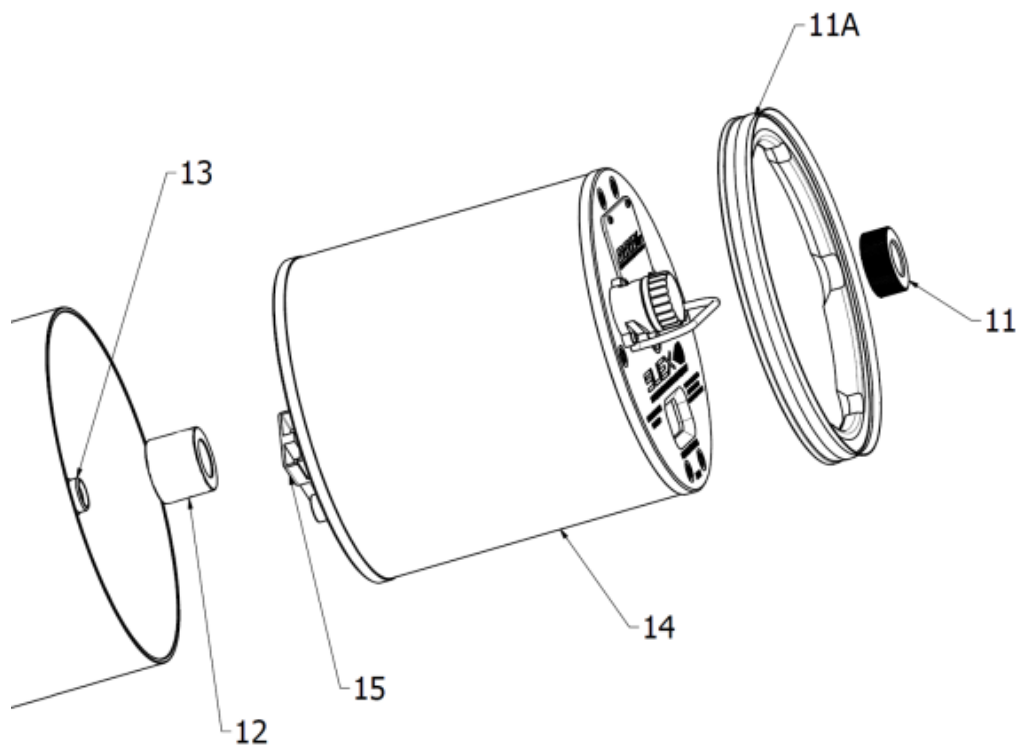

Fig.3
Once the cap has been removed, unscrew the ring nut (11), extract the drop drop ring (11A) and remove the battery (14) by pulling it upwards by sliding it off the rod (13) (fig. 3). When the battery is completely removed, disconnect the red connector (15).
To recharge the battery, remove the battery (14) from the Scooter (fig. 3), put it in a safe place away from people and flammable objects, unscrew the cap of the charging connector (24) (fig. 4), connect the socket battery charger power supply to the mains and connect the charging connector (26) to the battery charger (see Battery charger user manual). At the end of charging, disconnect the battery charger and screw the cap (24) of the connector (26) back on. Insert the battery into the scooter only if you intend to use it.
- Screw the ring nut (11 - Fig.3) and close the scooter (see paragraph "Closing the battery compartment").